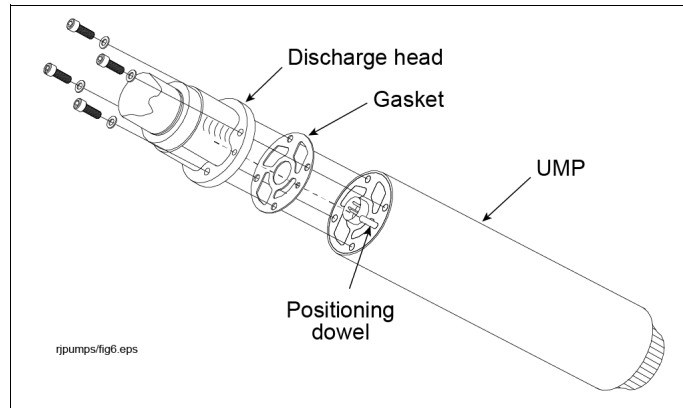

Figure 40. UMP Bolts And Gasket
4. Remove the old UMP by removing the four bolts holding the discharge head as shown in Figure 40. Discard the old gasket and fasteners.